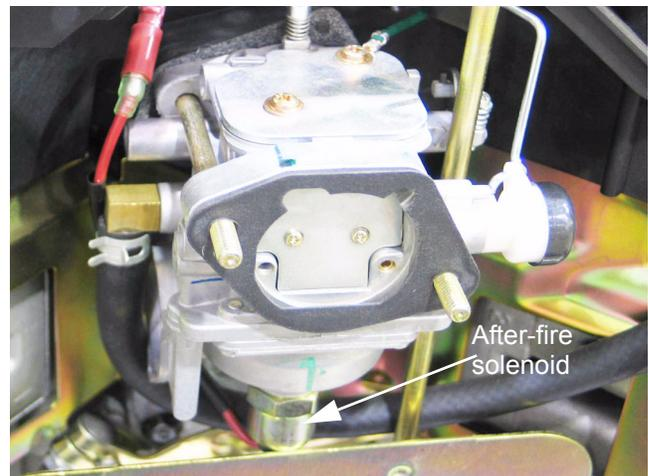

Figure 30.5
- 30.5. When the engine is running, the after-fire solenoid draws power from the charging circuit. See Figure 30.5.